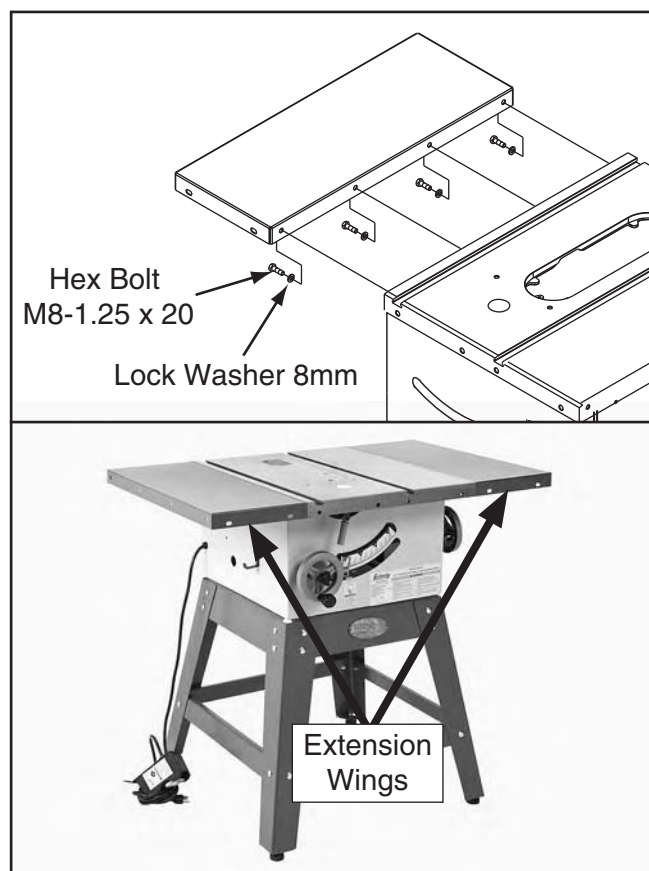

Figure 18. Extension wings installed on saw.
14. With another person to hold the wings in place, attach each extension wing to the main table with (4) M8-1.25 x 20 hex bolts and (4) 8mm lock washers, as shown in **Figure 18**.